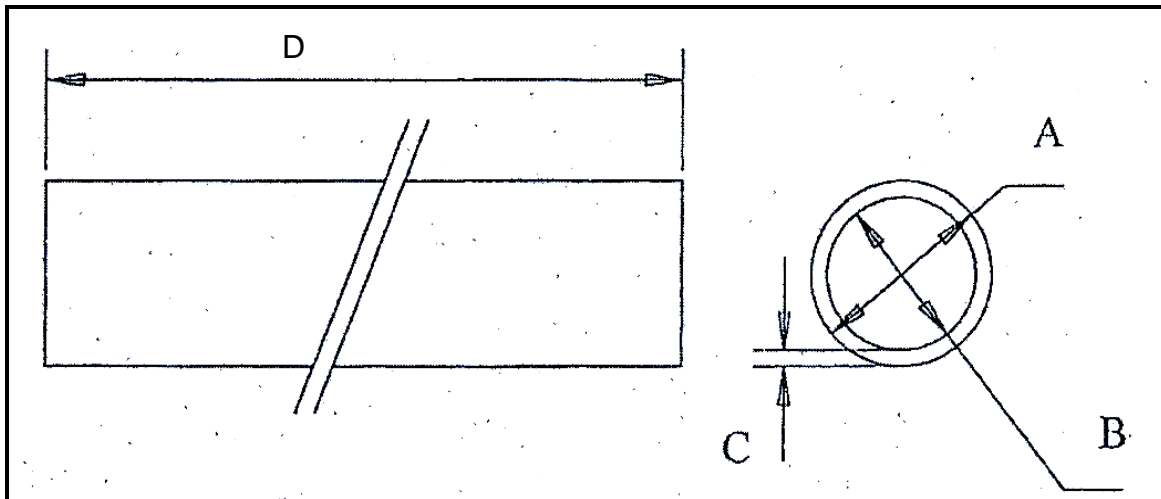

FIGURE 2
5.1 FIGURE 2 below shows different pipe dimensions.